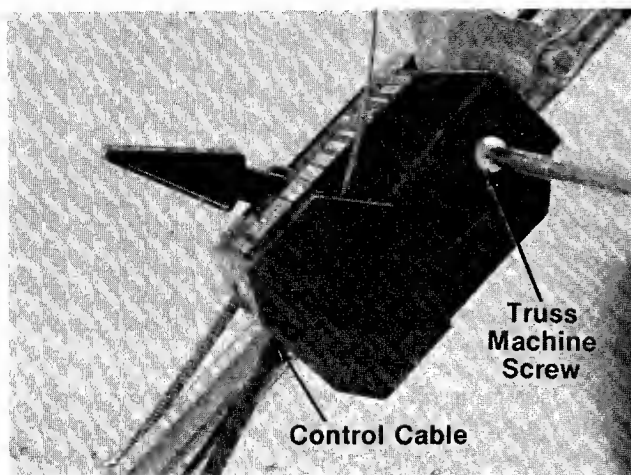

FIGURE 27.
4. Remove one truss machine screw on the inside of control housing as shown in figure 27. Loosen the truss machine screw on the outside of the control housing until the control housing halves can be separated enough for the control cable to be freed.
5. Disconnect the "Z" fitting on the blade brake/clutch cable from the clutch control handle. See figure 27. Slide the blade brake/clutch cable out of the control housing.